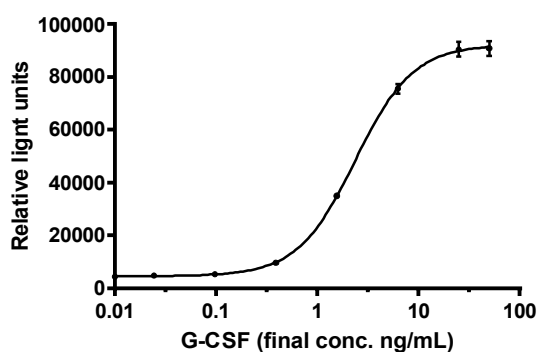

Figure 1. Example of G-CSF calibration curve.
The *iLite*[®] G-CSF Assay Ready Cells are engineered cells optimized to express Firefly luciferase under the control of a G-CSF responsive promoter. Binding of G-CSF to the G-CSF receptor (G-CSFR) results in activation of the G-CSF regulated Firefly luciferase reporter gene construct. *iLite*[®] G-CSF Assay Ready Cells also contain the Renilla Luciferase (RL) reporter gene, under the control of a constitutive promoter. The constitutive expression of RL allows normalization of G-CSF induced FL activity, and renders assay results independent of variations in cell number or serum matrix effects. The luciferase signal can be measured in a luminometer following addition and incubation of luciferase substrate. The Firefly luciferase signal is proportional to the concentration of functional G-CSF in a sample (Fig.1).